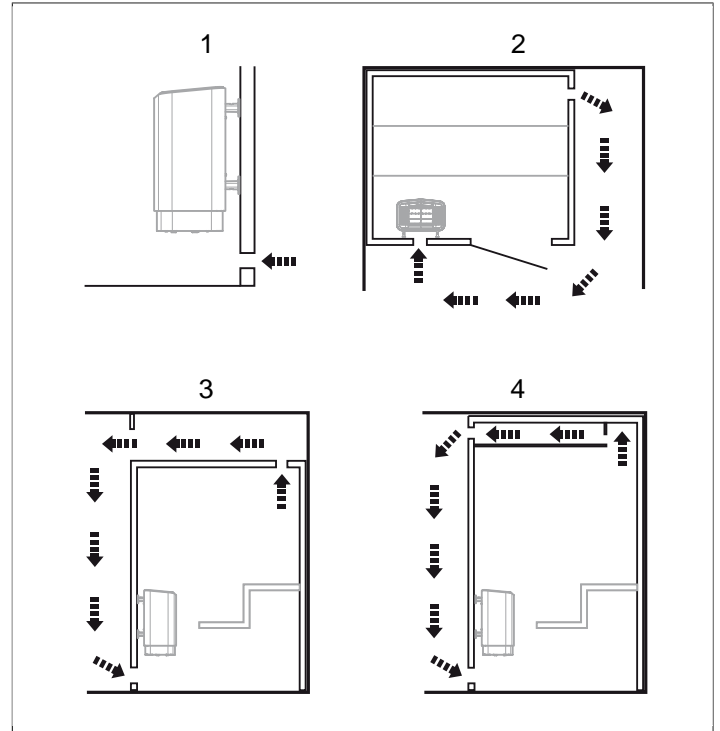

Figure 6: Positioning the inlet and outlet vents
- at the maximum possible distance from the inlet vent, e.g. diagonally (see **Figure 6**, Page 3).
- high on the wall or in the ceiling (see **Figure 6**, Page 3).